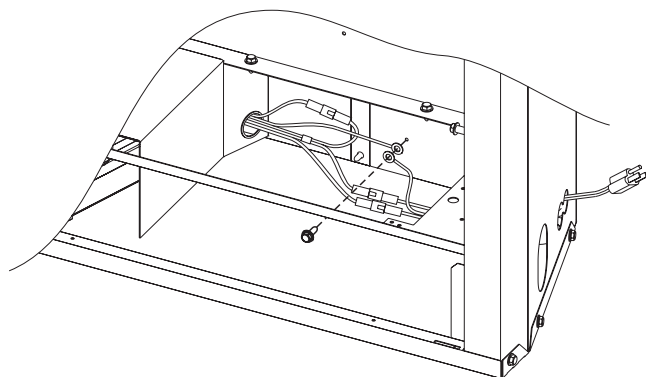

Figure 27
18. Route two (2) flag terminals on wire harness through Heyco bushing on blower side shield.
21. Attach one (1) pin terminal from black (neutral) wire, ribbed insulation on cord set to one (1) socket terminal from black wire on motor.
22. Attach one (1) pin terminal from black (hot) wire, smooth insulation on cord set to (1) socket terminal from black wire on AUOT/OFF/ON.
23. Attach one (1) pin terminal from white wire on AUTO/OFF/ON to switch one (1) socket terminal from white wire on motor.
24. Attach green ground wires from wiring harness and cord set to interior back of outer casing with one (1) 8 x 1/2" Phillips screw. See Figure 27.